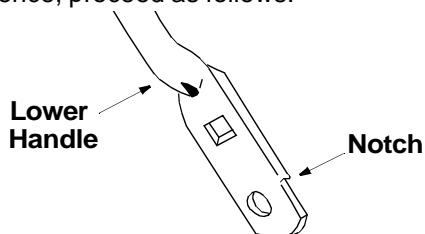

Figure 13
- Turn the lower handle around so the notches on the bottom of the lower handle are facing forward as shown in Figure 13. Reassemble, placing the bottom holes in the handle over the weld pins in the handle mounting bracket.